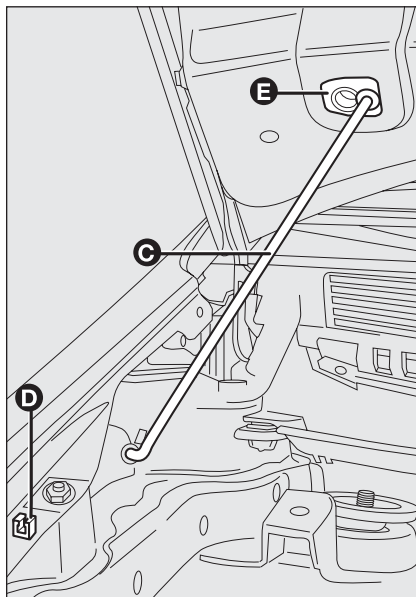

fig. 107
- lift the bonnet and at the same time release the rod **C**-fig. 107 from the catch, then fit end **D** of the rod into the bonnet recess **E**.
## CLOSING fig. 107